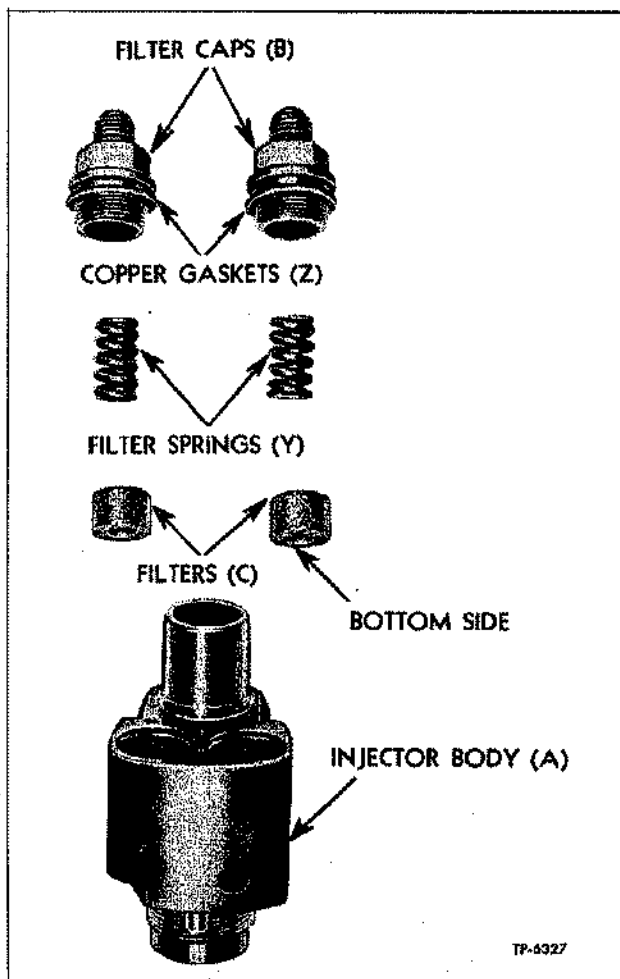

Figure 16—Injector Filters, Springs, and Caps
1. Support injector upright in injector assembly fixture, and remove filter caps, springs, filter elements and gaskets (fig. 16).
Before starting to assemble an injector, it is necessary to have an extremely clean bench on which to work and place the parts. Refer to figures 16, 17, and 21 for proper relative positions of the injector parts and the methods for their assembly prior to proceeding with assembly. Since the plunger and bushing are matched parts, they must be considered as one piece and, if one is replaced, both must be replaced.
1. Holding the injector body right side up, place a filter in each of the fuel cavities in the top of the injector body (fig. 16). The fuel entering the inlet side of the injector body surrounds the filter element, passes through the element, and is discharged through the bottom of the filter. The flow is in the reverse direction on the outlet side of the injector. Note that the fuel filters have a dimple in one end. When assembling the filters, always have the dimple at the bottom.